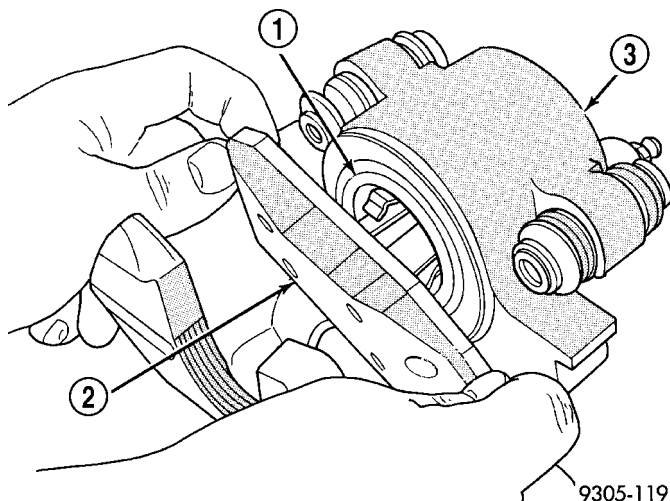

Fig. 15 Inboard Brake Shoe
(7) Pull inboard brake shoe away from piston until retaining clip is free from cavity in piston (Fig. 15).
(8) Repeat steps (3) through (7) on opposite side of vehicle to remove that side's brake shoes.
(4) Install the new inboard brake shoe assembly into the caliper piston by firmly pressing it into bore of caliper piston with thumbs (Fig. 15).